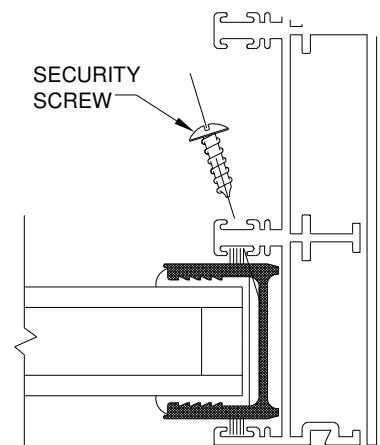

Figure 18:
- **“O” Panel** - Lift and move the panel into the fixed jamb as far as possible. Verify that the weather stripping in the frame head is located so that it contacts the width of the “O” panel. Installing the fixed panel security screw: Using a 1/16” diameter bit, drill a hole into the fixed stile through the hole shown in Figure 18. Then insert a black #8 x 3/4” self threading screw.